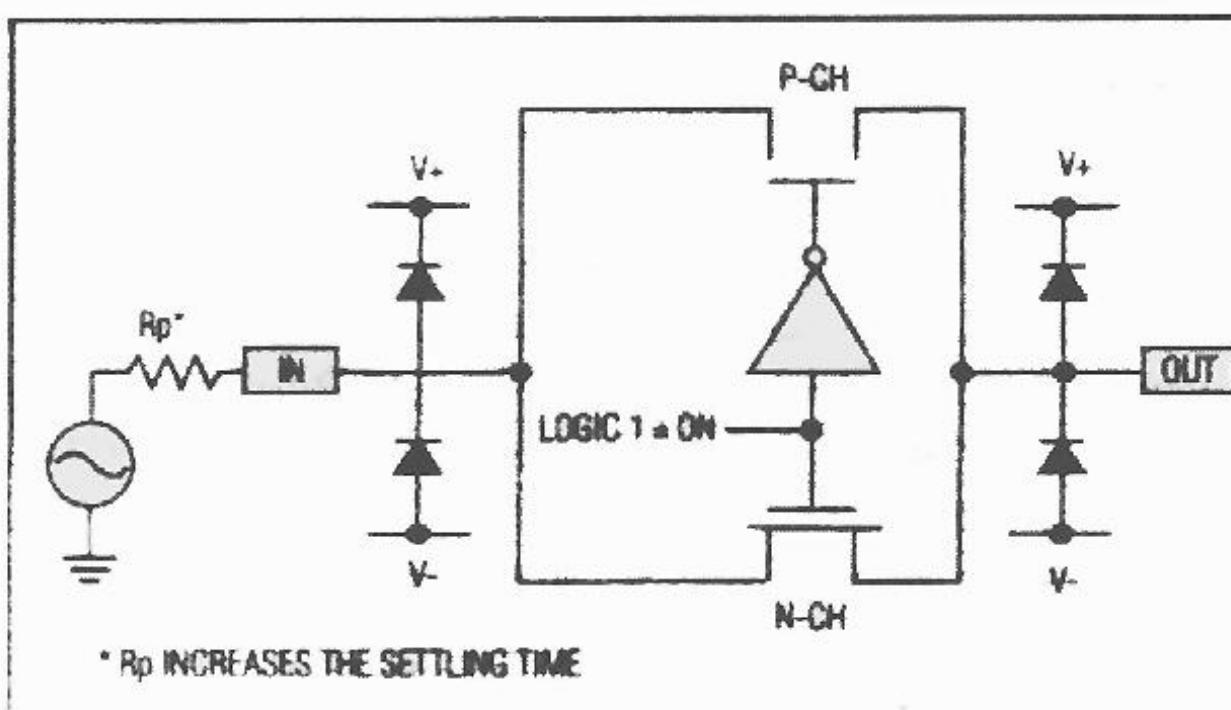

FIGURE 4. Adding a series resistor to the switch of figure 4 limits fault current, But it also adds to the switch resistance and lengthens settling time
- 63 The simplest form of protection adds series resistors that work in conjunction with the internal protection diodes (Figure 4)